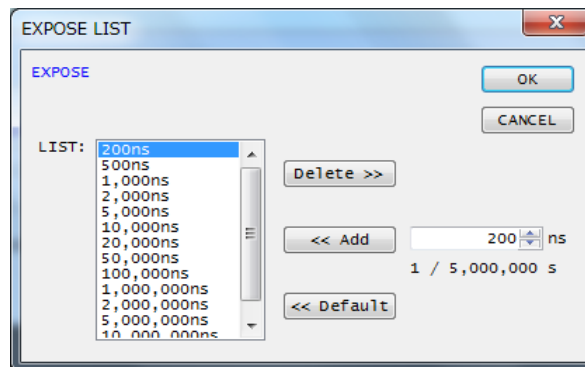

Fig. 5-14 Window for Editing the Live Image Exposure Time Selection List
Clicking the  icon displays a window for editing the live image exposure time selection list (Fig. 5-14).
- 1.** Display the window for editing the live image exposure time selection list (Fig. 5-14).